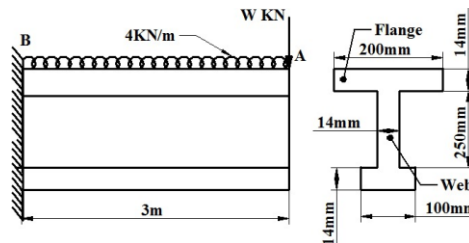

Figure 37
18. A cantilever has an I section with unequal flanges. The upper and lower flanges are (200mmx14mm) and (100mmx14mm) respectively. The web is (14mmx250mm). The cantilever is subjected to UDL of magnitude 4KN/m over its entire length and a point load W at the free end as shown in the **Figure 37**. Yield stress for the material of cantilever is 330MPa. Taking the factor of safety as 2. Determine the magnitude of maximum load W that can be applied.